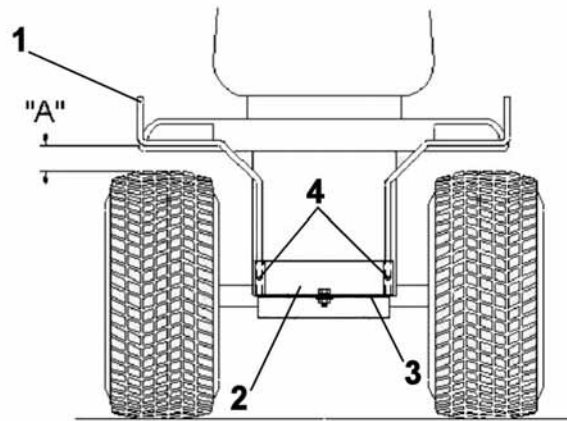

Figure 2
Insert the rear support rods (fig.2, item 1), the longest end into tow hitch support (item 2). Install the tow hitch support on top of the tractor tow hitch (item 3) with a 1/2 x 1 1/2" hex bolt and two flat washers (one on top and the other under the tow hitch), lockwasher and nut. The support must be completely flat against the back of the tow hitch.
Adjust the horizontal section of the rear rod support (fig.2, item A). So it is located 1/8" below the mud guard and 1" behind the mud guard.
Once installation is complete, adjust the cab by pulling the rear support rods (fig.2, item 1) toward the back to achieve a snug fit.